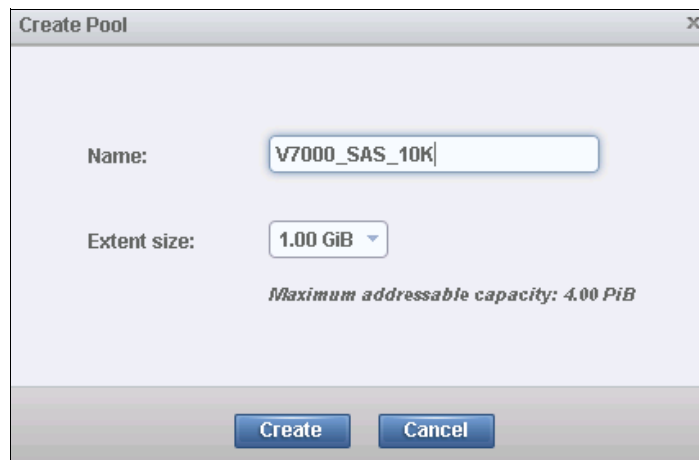

Figure 8-68 Create Pool
3. (Optional) You can specify the extent size (the default is 1 GiB), and then click **Create** (Figure 8-68).